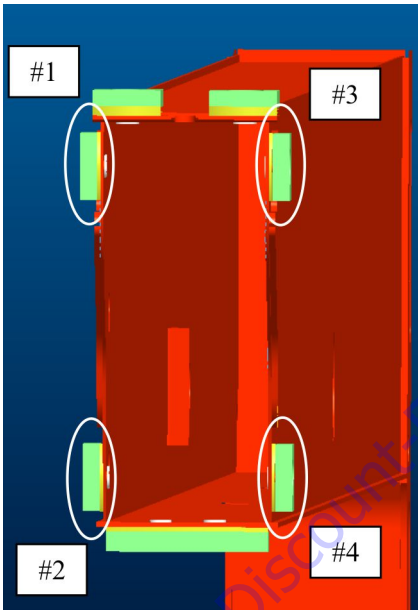
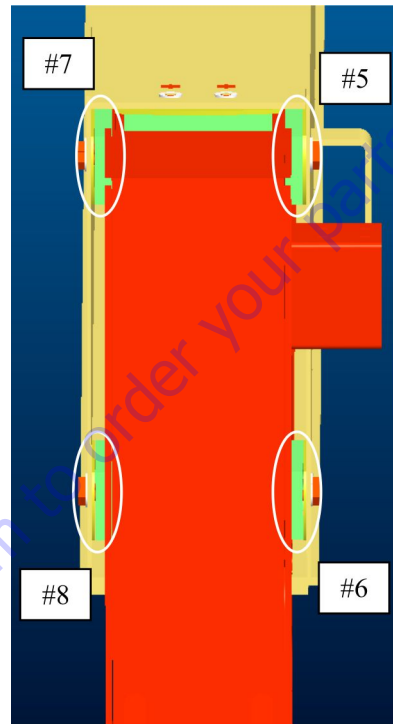

Figure 4-12. Fly Boom Wear Pads
Figure 4-13. Base Boom Wear Pads
7. Install the side pads and shims into the base boom. Distribute shims to each side to match the distribution noted in Step 2. Positions #5/6 must match positions #1/2. Positions #7/8 must match positions #3/4 (See Figure 4-12, and Figure 4-13.). Verify that no more shims will fit on either side.